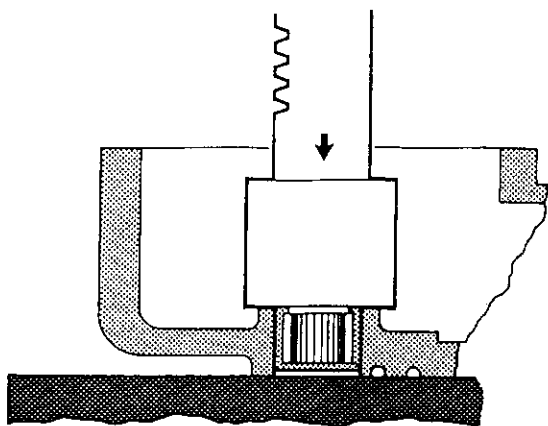

Figure 3.14
1. Press a new gear case bearing (7) into gear case (4) flush to .010" (2.54 mm) below surface of gear case and pack with Lithium base grease. See Figure 3.14.